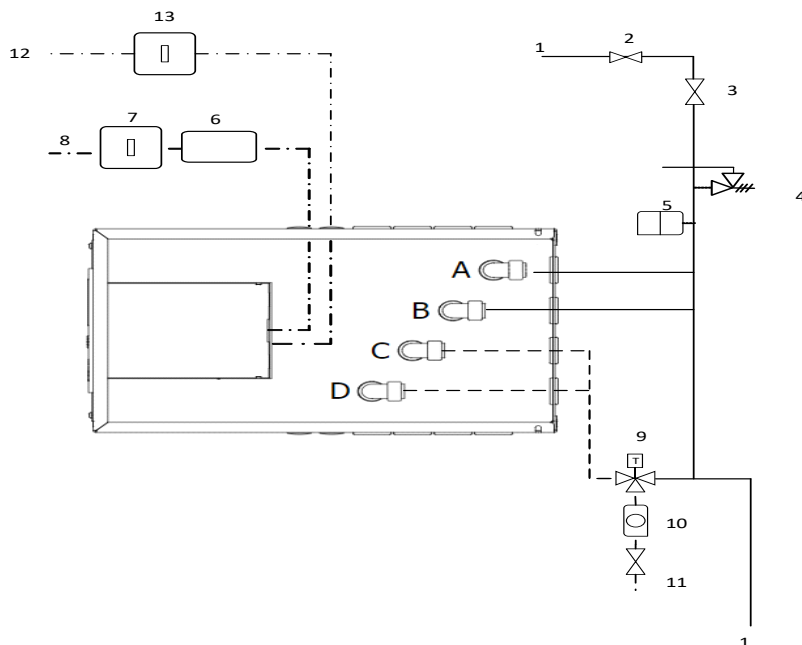

Figure 13.1: Example wiring option 2 schematic (see Figure 3 for tubing and electrical options available)
- Run and connect 3 core mains power supply cable (16A minimum, minimum 2.5mm² CSA) from the Double-pole isolating switch to the Heat Battery controller (Figures 13.1 and 13.2).
- Prepare, if necessary and wire the mains power cable in the following terminals (Figure 13.1):